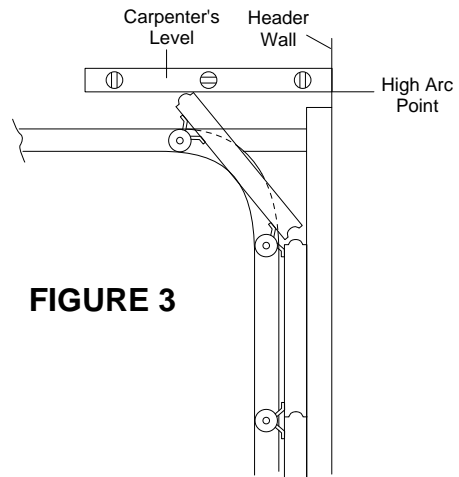

FIGURE 3
7. Raise the door to its high arc point. Use a carpenter's level to locate high arc point on wall above door center stile as shown in Figure 3. Make a horizontal line, intersecting the vertical centerline mark.